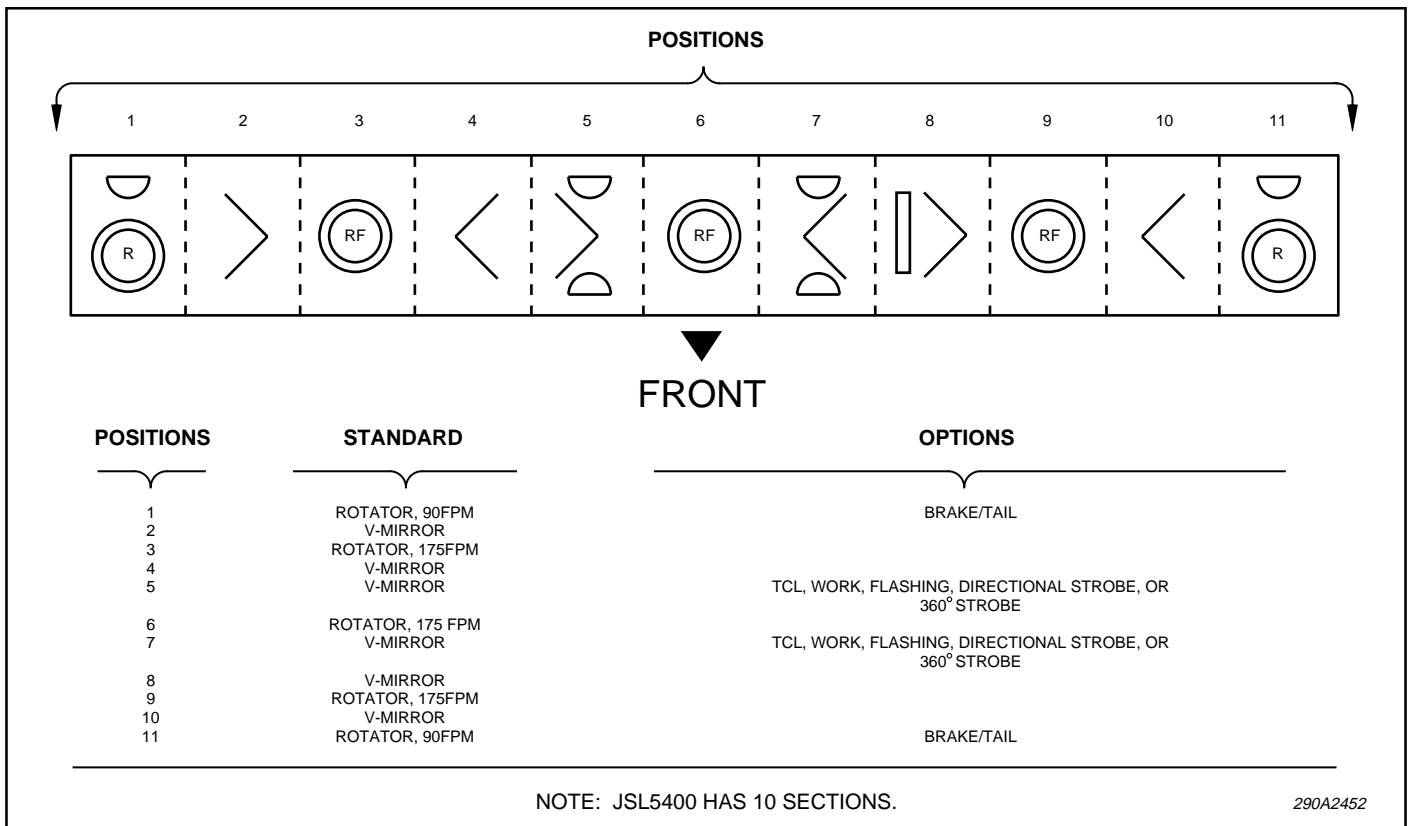

Figure 2. Recommended Option Locations.
E. The recommended optional function locations are shown in figure 2. Refer to the instructions provided in the option kit for installation details.